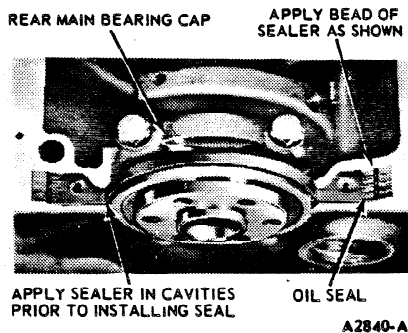

FIG. 50 Installing Oil Pan Rear Seal
2. Apply oil-resistant sealer in the cavities between the bearing cap and cylinder block (Figure 50). Install a new seal in the rear main bearing cap and apply a bead of oil-resistant sealer to the tapered ends of the seal.